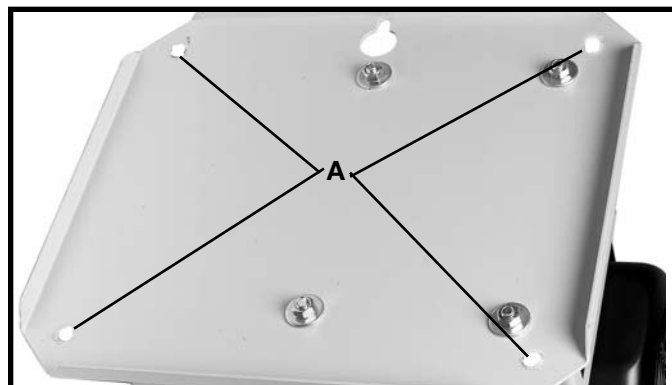

Fig. 3
2. Insert bolt from wheel caster through the four holes (A) Fig. 3 in the base of the dust collector.